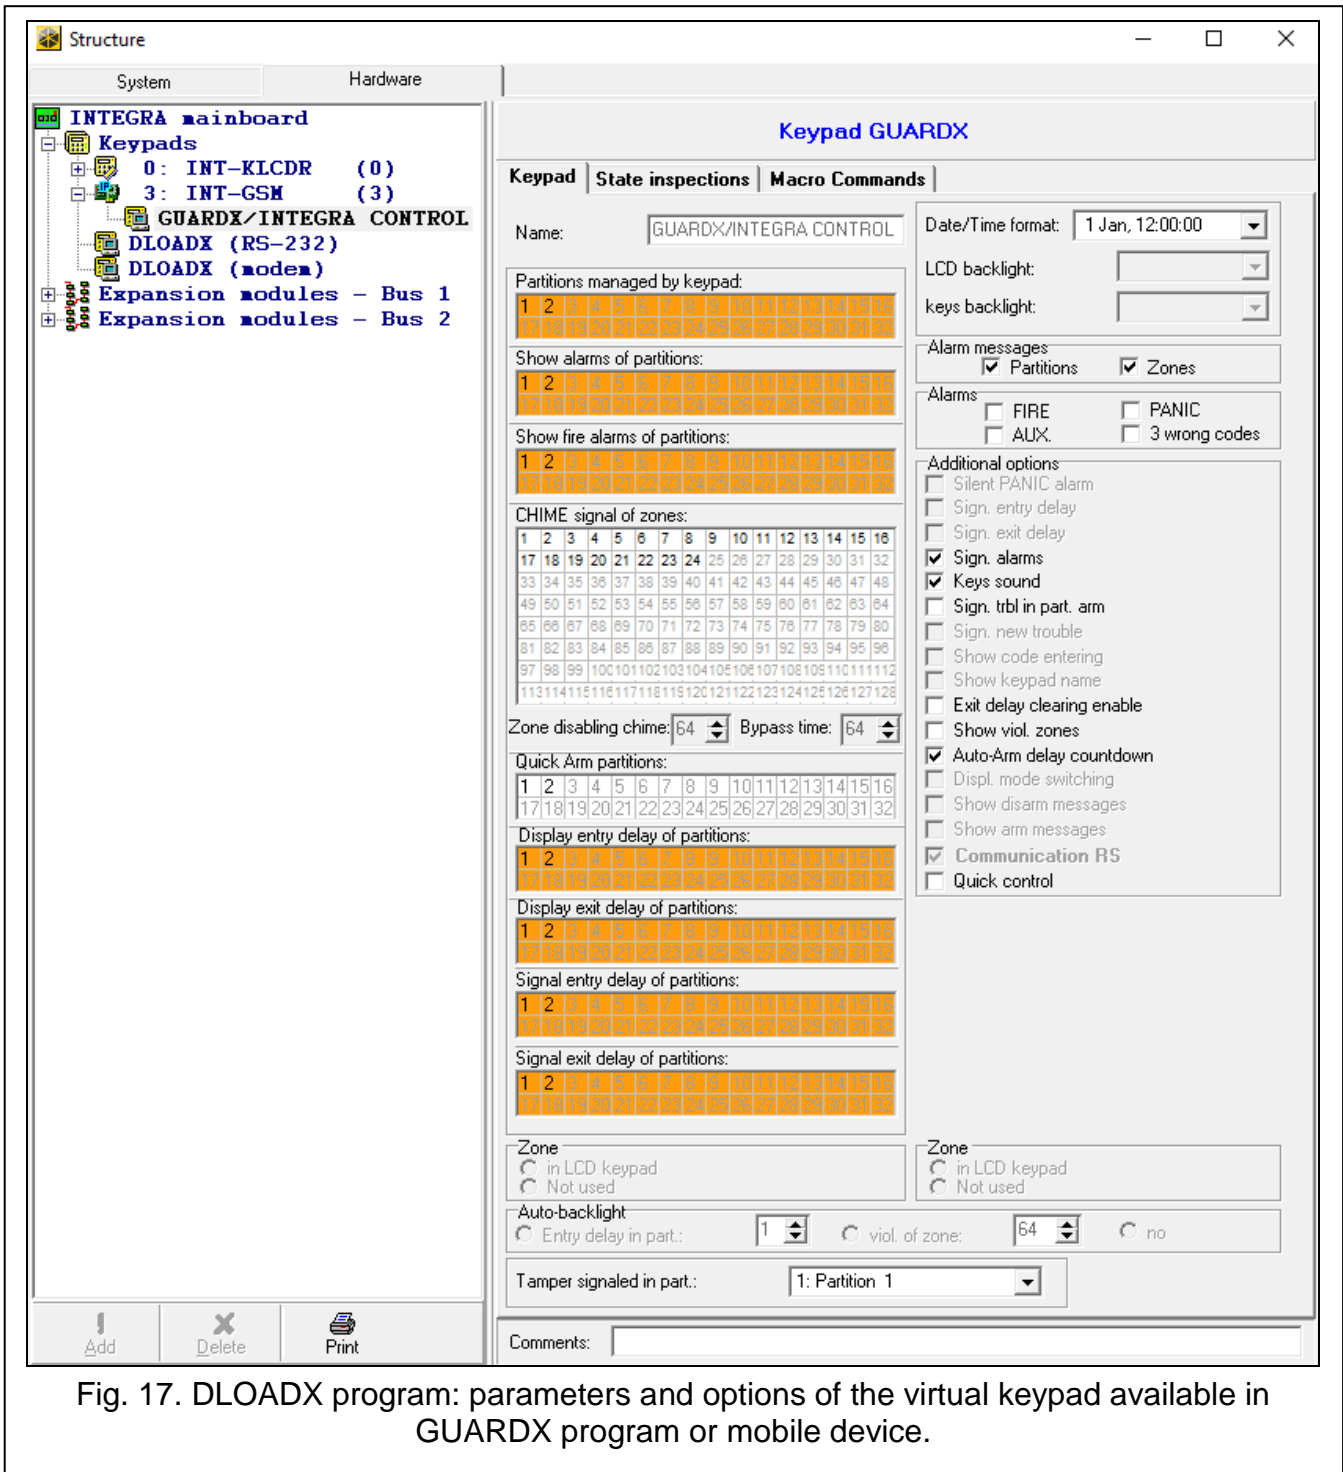

Fig. 17. DLOADX program: parameters and options of the virtual keypad available in GUARDX program or mobile device.
- DLOADX program: "Structure" window → "Hardware" tab → "Keypads" branch → [module name] → "GUARDX/ INTEGRA CONTROL" item (Fig. 17),